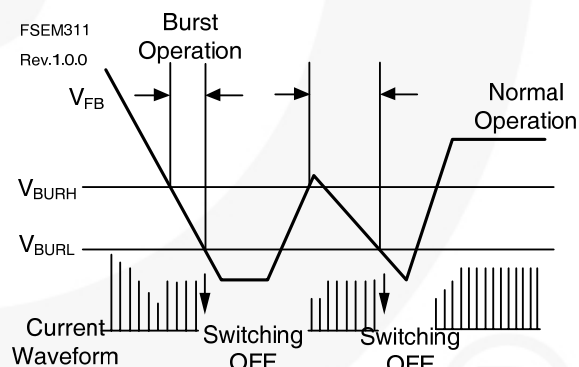

Figure 19. Burst Operation
6. Burst Operation: In order to minimize power dissipation in standby mode, the FPS enters burst mode operation. As the load decreases, the feedback voltage decreases. As shown in Figure 19, the device automatically enters burst mode when the feedback voltage drops below V_{BURH} . Switching still continues but the current limit is set to a fixed limit internally to minimize flux density in the transformer. The fixed current limit is larger than that defined by $V_{FB} = V_{BURH}$ and therefore, V_{FB} is driven down further. Switching continues until the feedback voltage drops below V_{BURL} . At this point switching stops and the output voltages start to drop at a rate dependent on the standby current load. This causes the feedback voltage to rise. Once it passes V_{BURH} , switching resumes. The feedback voltage then falls and the process repeats. Burst mode operation alternately enables and disables switching of the Sense FET and reduces switching loss in Standby mode.